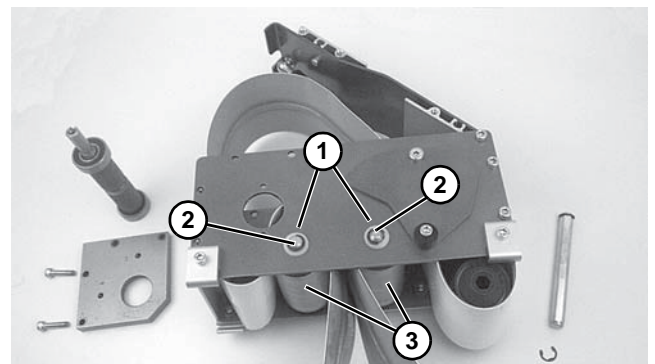

Figure 58
- For 2" (44 mm), 3" (70 mm) or 4" (95 mm) wide conveyor, detach E-ring clips and remove washers (**Figure 58, item 1**). Remove pulley shafts (**Figure 58, item 2**) and pulleys (**Figure 58, item 3**).